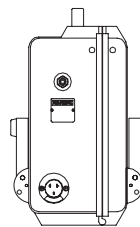

Figure 3
6. Push the release pin IN on each bracket assembly and position each leg arm as shown in Figure 3.
The Breathing Air System box is now ready to use, with support brackets attached. The box can be conveniently carried or stored in the leg position as shown in Figure 3.
2. To open the box and make adjustments, depress the release pins and position the legs as shown in Figure 3, if they are not already in the up position.